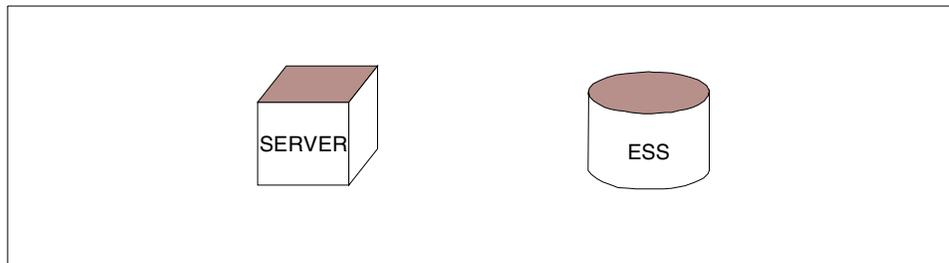

Figure 33. Unassigned disk
3. Unassign the disks using the ESS Specialist (Figure 33).